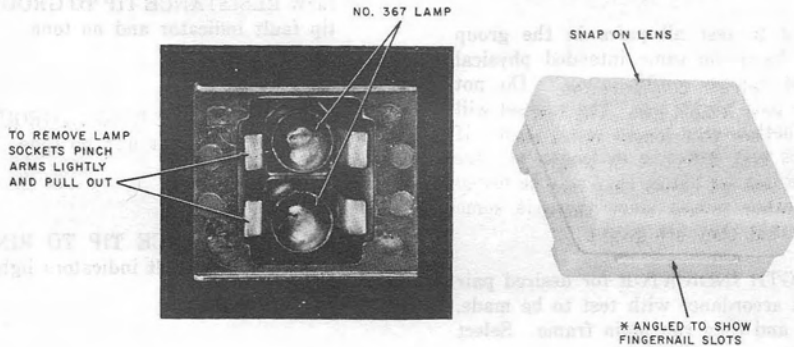

Fig. 4—Replacing Miniature Lamp
- (1) HIGH VOLTAGE—Neon lamp should light, green "GO" lamp and tone will remain on.
- (2) CO BATT—Amber light and low frequency tone.
- (3) GO—Green light and high frequency tone.
- (4) LOW-R—Both red (TIP and RING) resistance fault lamps on and no tone.
- (5) CAP UNBAL—Red capacitance fault lamp on and no tone.
**Note:** If lamps should not light, replace with Chicago Miniature Lamp #367 (high voltage lamp number is GE A1H). To replace lamps, remove snap on lense cover on the front panel (Fig. 4). When replacing snap-on cover, press firmly until cover snaps in place.